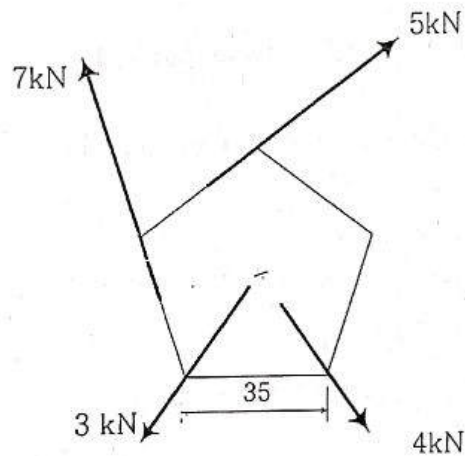

Fig. 3
2. a) Figure 3 is of a 1.5m beam, having live loads of 4N, 6N, and a repulsive force of 2N as indicated in the figure. To suitable scales stated draw
- b) A regular pentagon in figure 3 below has been used to show the positions of a non concurrent coplanar system of forces. Graphically determine the resultant force for the given non-concurrent coplanar forces shown